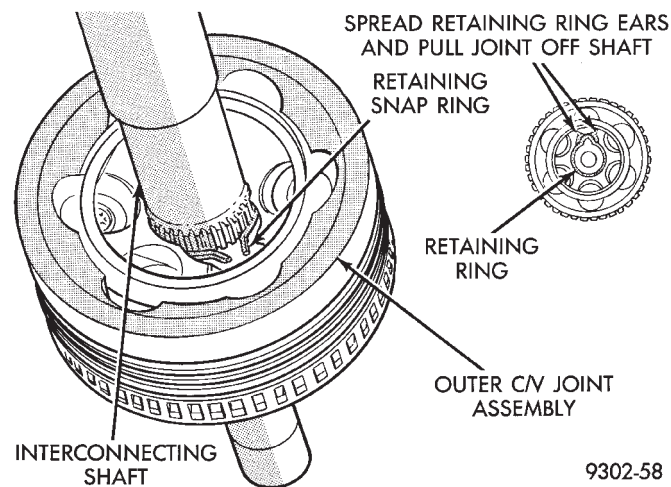

Fig. 2 Outer C/V Joint Removal From Interconnecting Shaft
(3) Wipe away grease to expose outer C/V joint to interconnecting shaft retaining ring (Fig. 2). Spread ears apart on C/V joint assembly to interconnecting shaft retaining snap ring (Fig. 2). Slide outer C/V joint assembly off end of interconnecting shaft.